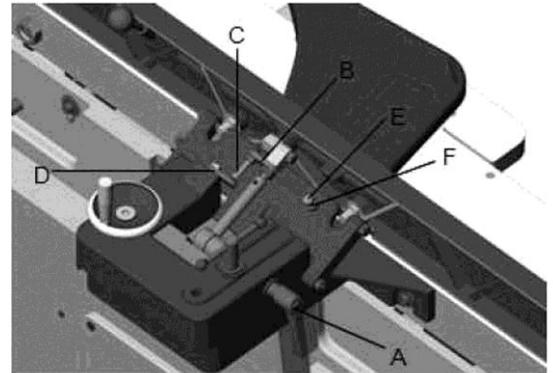

Fig. 17
Refer to (Fig.17):
1. Loosen the lock handle (A). Move the stop plate (D) out of the way and position the fence at the 135° angle. Make sure the fence sits against the stop bolt (E).
2. Tighten the lock handle (A)
3. Place an angle measuring device on the table and against the fence to confirm a 135° setting (A. Fig. 17).
4. To adjust, loosen the lock nut (F), turn the stop bolt (E) until a 135° angle is obtained.
5. Tighten the lock nut (F).